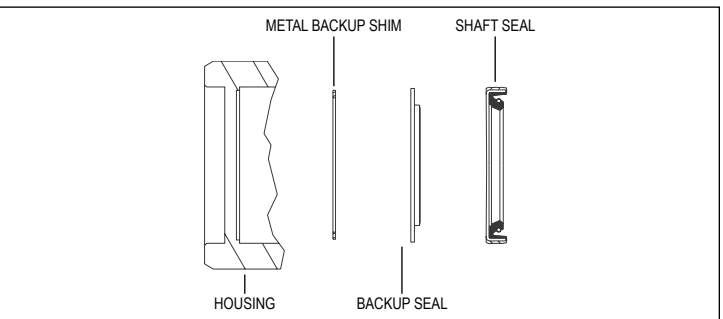
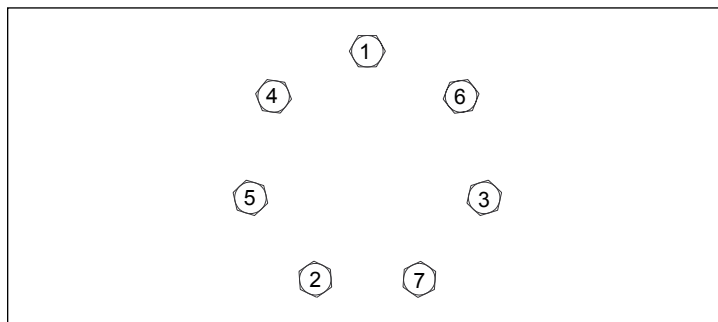

FIGURE 2
FIGURE 3
- J) Place housing (16) in vice with the seven bolt assembly holes facing up. Place metal shim (5) in the smallest diameter recess in the housing (16). Install the backup seal (6) into the housing (16) with the flat side down and the seal lip facing up. Insert shaft seal (7) down into housing (16) making sure that lip on seal faces up (See Figure 2 for correct seal orientation). Install thrust washer (14) into housing and using an arbor press, seat the shaft seal (7) into housing (16), then place the thrust bearing (15) into housing.
- K) Place the rear housing bearing (17) onto the rear housing bore and press to a depth of 3,6 [.14] from the rear surface of the housing (16) to the top of the bearing (17). Place the shaft (27) down into housing (16) and place thrust bearing (15) on top of shaft (27). If shaft seals are properly seated against the housing (16), thrust bearing (15) will be flush with rear surface of housing.
- L) Install housing seal (8) into groove in housing (16). Place manifold (20) onto housing (16) with side with only seven holes facing housing (16). Place body seals (9) in grooves in both sides of rotor (21). Place rotor (21) onto manifold (20) with side of rotor with chamfer in splines facing manifold (20).
- M) Install balance plate (22) onto rotor (21) making sure holes for steel balls (23) faces up. Install three steel balls (23) in holes in balance plate (22). Install endcover seal (10) into groove in endcover (24) and place endcover onto balance plate (22). Install seven assembly bolts (26) and pre-torque to 10 ft. lbs. Using the bolt torque sequence shown in Figure 3, final torque all bolts to 67,8 Nm [50 ft. lbs.]
- N) Remove motor from vise and place on work surface with shaft (27) facing up. Place 72mm bearing (12)(Making sure that side of bearing with internal retaining ring faces down) over the shaft (27). Using a sleeve and hammer, carefully drive bearing into housing making sure the top of the bearing falls below the groove in the housing for retaining ring installation. **(Caution: Driving the bearing down with excessive force may cause seal carrier to interfere with bearing performance. This could lead to product overheating and may shorten the life of bearing and motor. Bearing only need be tapped into place.)** Install the retaining ring (11) in the groove in the housing, making sure that the ring snaps into place. Place dust seal (1) over shaft (27) making sure side with lip faces up. Using a sleeve and hammer, carefully drive dust seal into place.